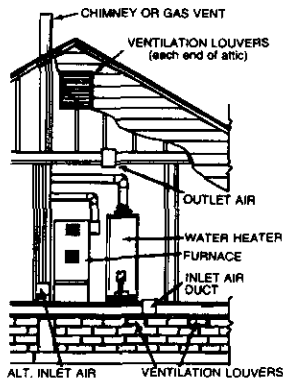

Figure 3
1. When directly communicating with the outdoors, each opening shall have a minimum free area of 1 square inch per 4,000 BTU per hour of total input rating of all equipment in the enclosure. (See Figure 3.)